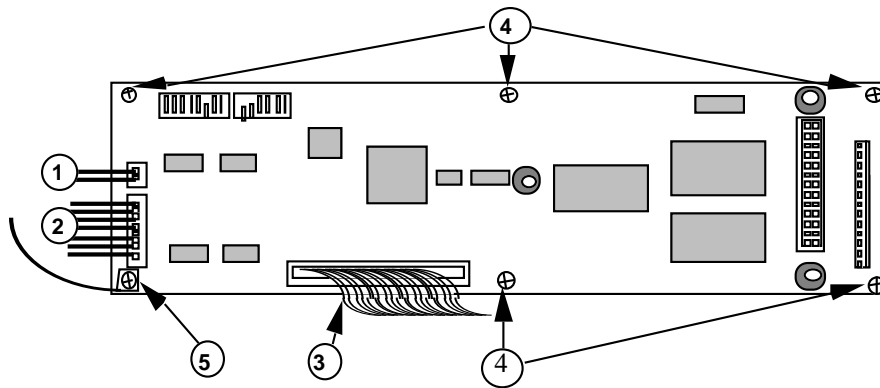

FIGURE 4
4. Remove the three connectors. (Figure 4, #1 is a two - pin; #2 is an 8-pin; and #3 is a 50-pin ribbon cable.)
5. Remove the five screws (Figure 4, #4).
6. Remove the sixth screw, which holds the grounding strap (Figure 4, #5).
2. Install the five screws (Figure 4, #4).
3. Install the sixth screw, which holds the grounding strap (Figure 4, #5).
4. Plug in the three connectors (Figure 4, #1, #2, and #3).